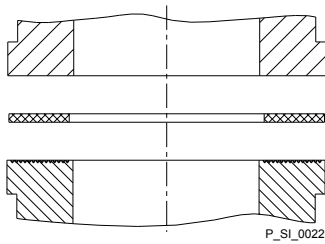

Fig. 15: Elastomer flat seal for a smooth insert
- In the event that an unflared insert is used (e.g. third party part), an elastomer flat seal must be used - see Fig. 15.